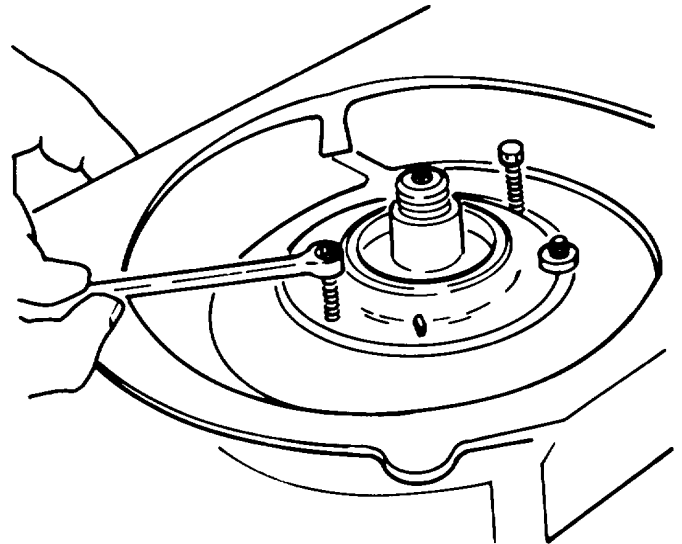

Figure A-29. Main Bearing Support
w. Main Bearing Support. Remove the four main bearing support nuts with a 8mm socket. (Note that these nuts have a thread pitch unlike other 8mm nuts used in the engine.) Next, install two remover screws into the support and screw them in until the support breaks loose from the crankcase. (Figure A-29.)
- (1) Pull off the support, belleville washers, oil seal, o-ring retailer and o-ring.